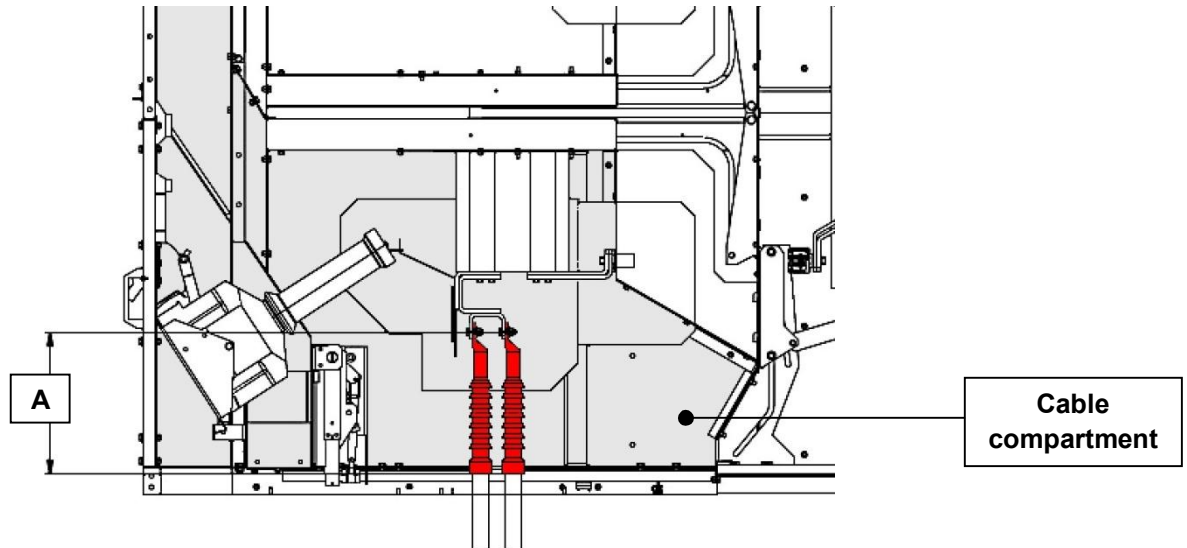

Fig54. Power cable location in the cable compartment
- Properly selected cable termination length (fig54 & 55). In the standard application, the cable termination length should be max. 491mm. If longer one needs to be used, please consult SIEMENS for the special design of deep bottom pan. The solution will be to adapt the deep bottom pan as explained in clause 4.3.9.1.3. (page62). Dimensions of deep bottom pan can be changed according to the cable termination length and diameter.
- ⇒ Depending on the manufacturer of the cable terminations, the dimensions may differ from those shown in fig54 & 55 and above table. If they are different, please consult Siemens before installation.